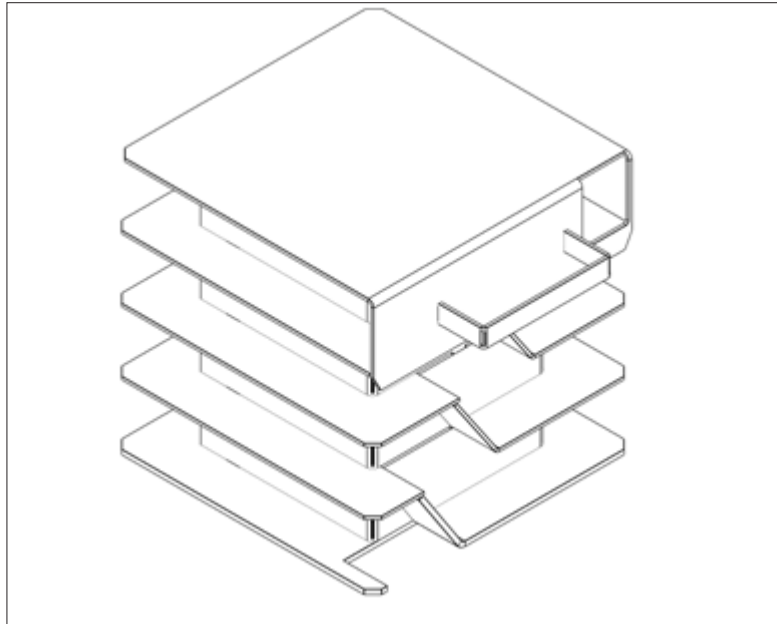

Figure 11-1: Baffles (15/21 & 21/26 models)
2. Remove the baffles as shown in Figures 11-1 and 11-2.
6. Replace the baffles, ensuring they are correctly fitted. Refer to Figures 11-1 and 11-2, as appropriate.